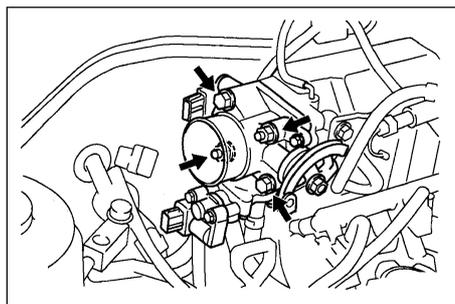

Figure 2-7
- (1) Disconnect the connector of the throttle position sensor.
- (2) Disconnect the connector of ISC valve.
(3) Remove 2 bolts and 2 nuts, and remove the throttle body from the suction manifold (see Fig. 2-7).